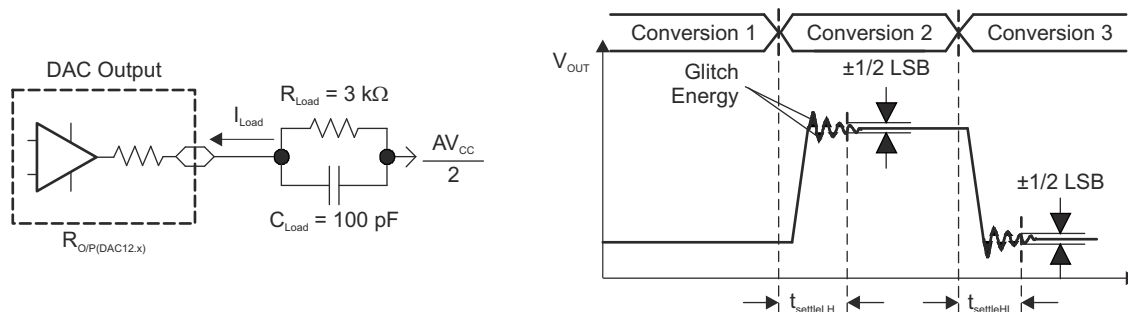
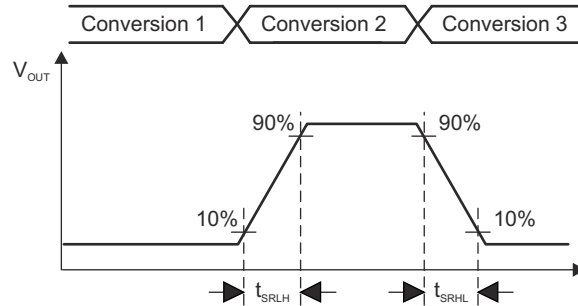

Figure 8-19. Settling Time and Glitch Energy Testing
图 8-20. Slew Rate Testing
V_{REF} = V_{CC}, DAC12IR = 1 (see Figure 8-19 and Figure 8-20), over recommended ranges of supply voltage and operating free-air temperature (unless otherwise noted)
(1) R_{Load} and C_{Load} connected to AV_{SS} (not AV_{CC}/2) in Figure 8-19.
(2) Slew rate applies to output voltage steps ≥ 200 mV.